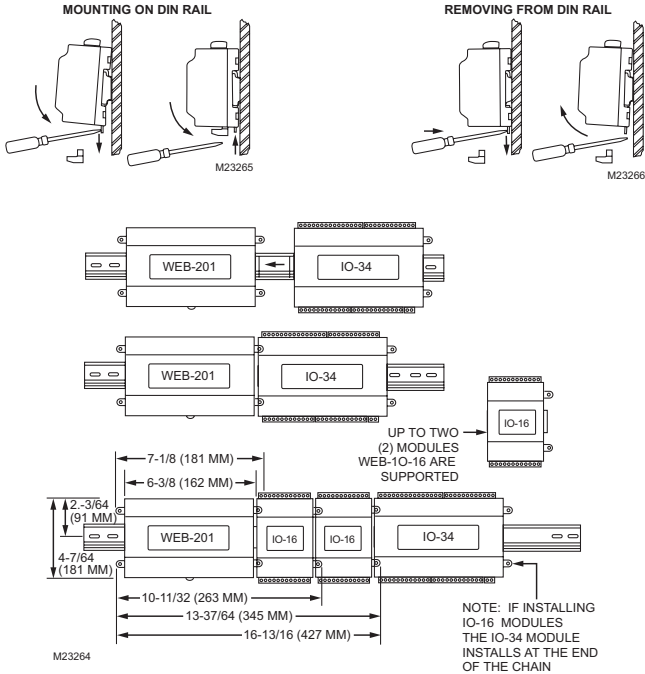

Fig. 2. WEB-IO-34 Module mounting details.
- DIN rail, type NS35/7.5 (35 mm x 7.5 mm) recommended for mounting with WEB-201 controller. The DIN rail should be sufficient length to accommodate both the WEB-201 controller and WEB-IO-34 module. See Fig. 2.
NOTE: If installing the WEB-201 controller and WEB-IO-34 module at the same time, refer to the WEB-201 INSTALLATION INSTRUCTIONS guide literature no. 95-7722 to install the WEB-201 controller. In this case, the WEB-IO-34 module is typically the “approved power source”, used *in place* of a WEB-NPB-PWR module. A maximum of 2 additional WEB-IO-16 modules are supported. See Fig. 2.
DIN MOUNTING IS RECOMMENDED OVER TAB MOUNTING. SEE FIGURE 2.
Step 2	Position the WEB-IO-34 module on the rail, tilting to hook DIN rail tabs over one edge of the DIN rail. (See Fig. 2)
NOTE: To remove WEB-IO-34 module from DIN rail, slide it away from other modules. Insert a screwdriver in the center plastic locking tab and pull downwards, then lift the unit outwards. It may be necessary to remove an I/O connector plug as shown at the top of Fig 2.